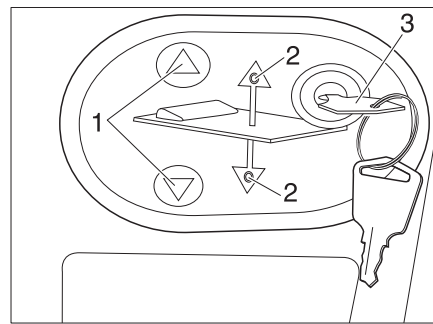

Fig. 155 Operating panel for the electrical pull-down bed
- Insert the key (Fig. 155,3) into the operating panel.
- Press the  or  (Fig. 155,1) button and keep it pressed. The respective LED (Fig. 155,2) lights up and the pull-down bed moves down or up.
- When the desired position has been reached, release the  or  (Fig. 155,1) button again. The respective LED (Fig. 155,2) extinguishes.
- Remove the key (Fig. 155,3).